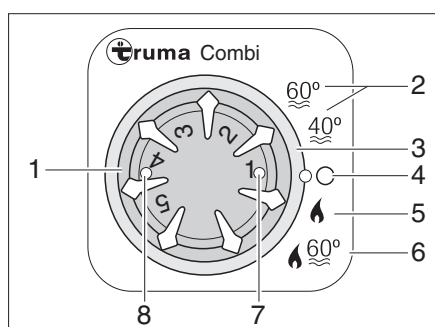

Fig. 82 Operating unit for heater/boiler
Selecting operating mode: ■ Set the operating mode using the rotary switch (Fig. 82,3).
The heater selects the required burner setting according to the set heating level. In the "Heater and boiler" operating mode (Fig. 82,6) the water in the boiler is also heated. The heater can be operated with an empty boiler in the "Heater without boiler" operating mode (Fig. 82,5).
- Set the temperature control knob (Fig. 82,1) at the operating unit to the desired heating level.
- Set the rotary switch (Fig. 82,3) to winter operation "Heater without boiler" (Fig. 82,5) or to winter operation "Heater and boiler" (Fig. 82,6).
Green indicator lamp (Fig. 82,7) lights up.
- Set the rotary switch (Fig. 82,3) to "O" (Fig. 82,4).
The combination gas operation and 230 V electrical operation reduces the heating-up time (only possible when the heater on the operating unit (Fig. 82) is set to winter operation).